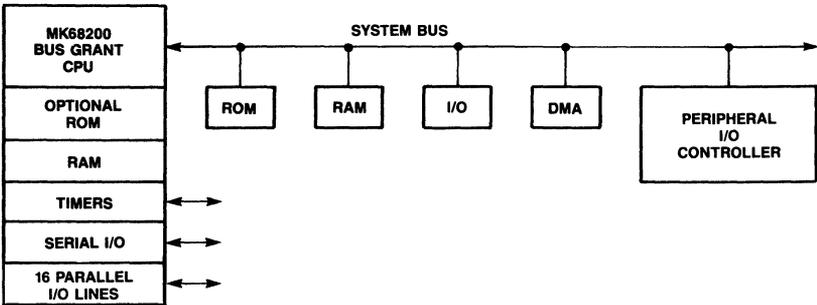
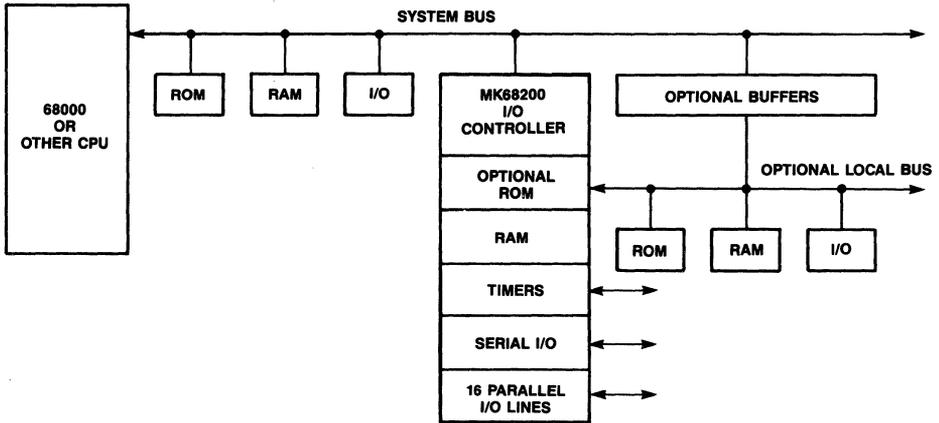

Figure 10. Host CPU Hardware Configuration
Figure 11. Peripheral I/O Controller Configuration
which generates 68000-compatible signals, and a General Purpose (GP) bus, which can be used to interface to a wide variety of existing microprocessor buses. With the selection of an expanded bus mode, the MK68200 can act either as a general purpose CPU chip (bus grant device) or as an intelligent peripheral I/O controller to a host CPU (bus request device). These two system configurations are illustrated in Figures 10 and 11.
With the GP bus option, the user may configure the MK68200 in either of the two ways shown in Figures 10 and 11. As a host CPU (Figure 10), the MK68200 bus arbitration logic causes the device to act as the system bus grantor. In other words, the MK68200 would normally have control of the system bus and would grant its use to DMA devices or peripheral CPUs. Alternately, the MK68200 may be configured as a peripheral CPU (Figure 11) that must issue a request to the bus grant device before being allowed to use the system bus. The selection of one of these two configurations is accomplished by the P4-11 pin at reset time. During reset, P4-11 serves as the R/G input (0=bus grantor, 1 = bus requestor). Following reset and at all times during program execution, P4-11 may be used as a general purpose input pin.